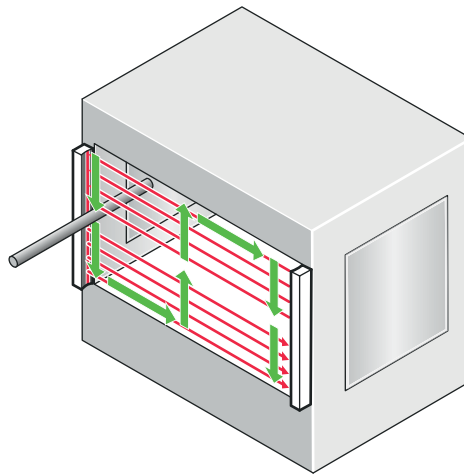

Figure 27: Test rod check: Step 1
1. Move the test rod slowly through the area to be protected (e.g., machine opening), as indicated by the arrow, see figure 27.